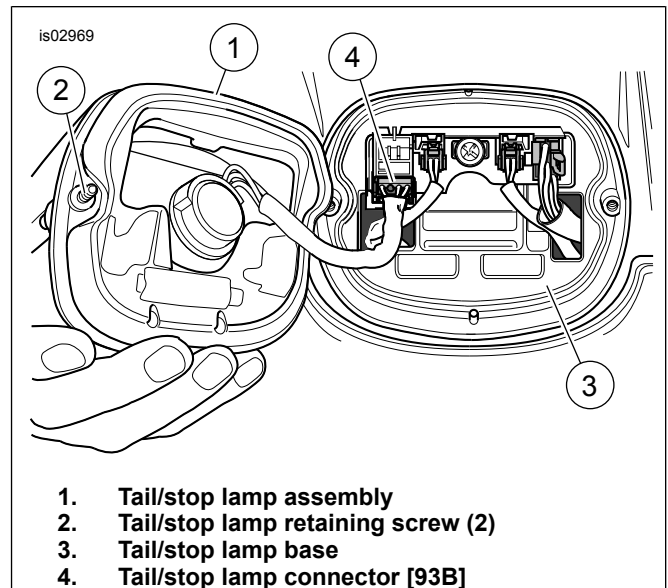

Figure 1. Removing the Tail/Stop Lamp Assembly
Figure 1 shows the original equipment tail/stop lamp mounted to a full fender. The lamp is rotated 180° when mounted to a Bobtail fender.
2. See Figure 1. Loosen the two screws (2) retaining the tail/stop lamp assembly (1) to the lamp base (3), and pull the lamp assembly away from the base.
3. Push the locking tab (button), and disconnect the tail/stop lamp connector [93B] (4) from the circuit board. Remove the lamp from the vehicle.
See Figure 1. Lamp assembly (1) attaches as shown on full fender models. On Bobtail models, lamp assembly is rotated 180°. The logo (2) is not factory installed so logo can be installed in the upright position.